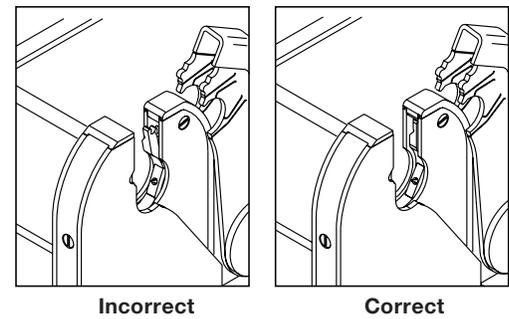

Figure 17 Home Position of Rotor
- Press HOME to return the rotor to the home position as shown in Figure 17.